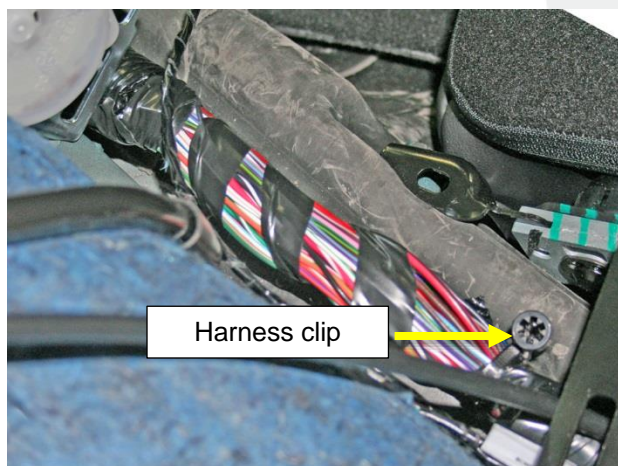

Figure 16 (Before)
14. Remove the tape from the exposed section of the RH main harness, working forward from the seat belt reel to the harness clip (Figures 16 and 17).